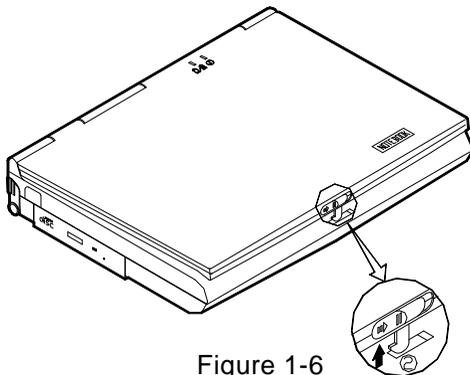

Figure 1-6
- 2** Lift the top cover to reveal the LCD panel and keyboard (Figure 1-6).